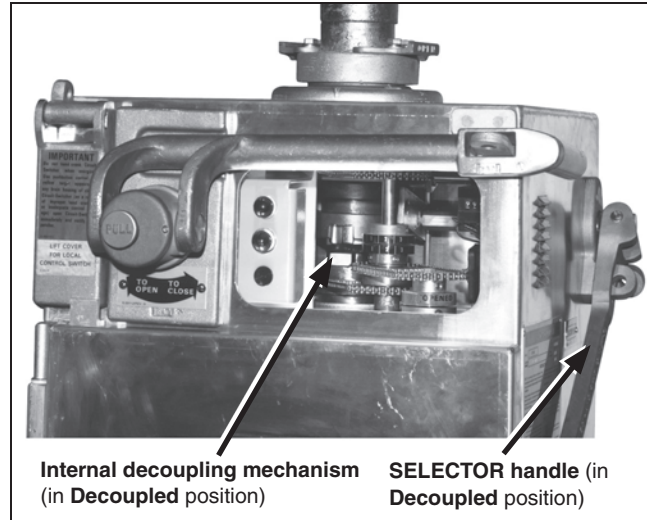
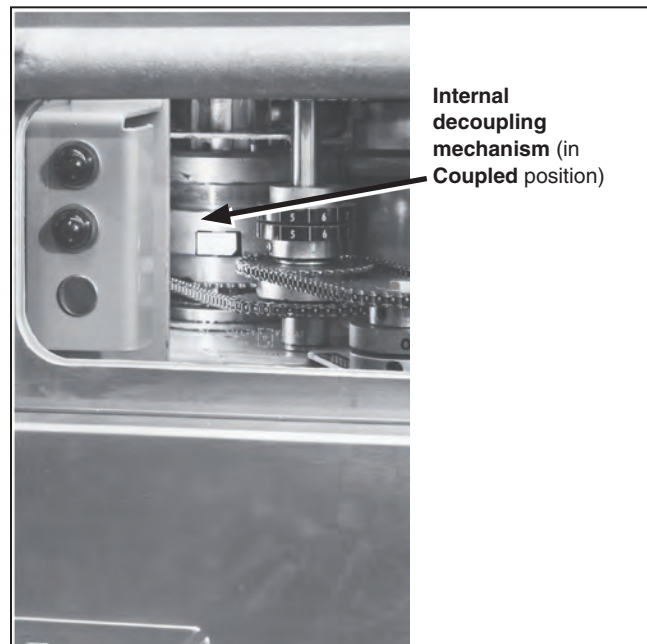

Figure 79. View of a decoupled switch operator through the observation window.
Figure 80. View of a coupled switch operator through the observation window.
STEP 1. Verify the disconnect is in the **Coupled** position by looking at the internal decoupling mechanism inside the Mark VI CS-1A Switch Operator. See Figure 79 and Figure 80. If the switch operator is in the **Decoupled** position, manually operate the switch operator to bring it into the same position as the disconnect (**Open** or **Closed**). See Figure 80. For instructions on coupling the switch operator, refer to "Using the Selector Handle (Coupling and Decoupling)" on page 36.